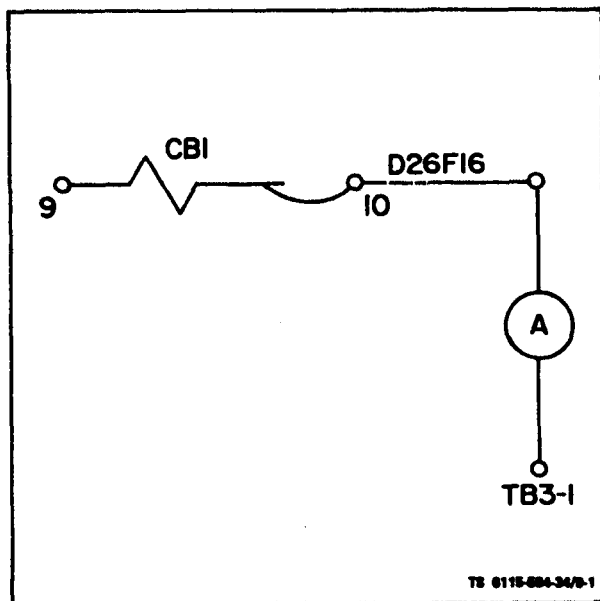

Figure 9-1. Adjusting R3 Resistor
a. Remove wire D26F16 from TB3- 1 and connect 0 to 1 amp ac test ammeter as shown in figure 9-1.